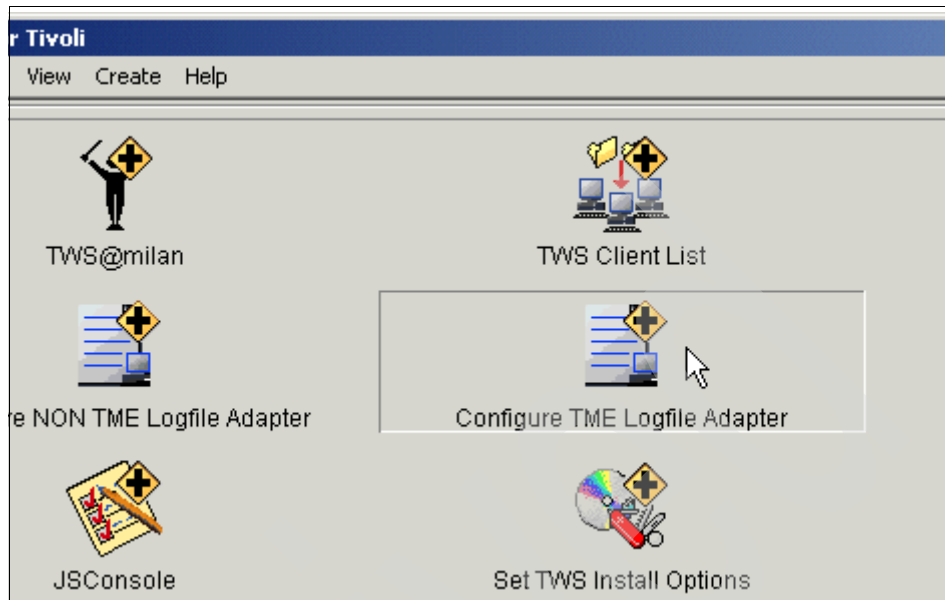

Figure 8-58 Starting Configure TME logfile adapter Framework task
- Double-click the TWS Plus for Tivoli icon. The TWS Plus for Tivoli window displays as shown in Figure 8-58 on page 383.
- Double-click the Configure TME logfile adapter icon as shown in Figure 8-58 on page 383.